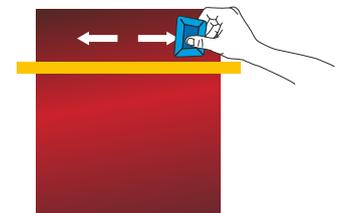

Figure04
- › Start applying the film with a squeegee (previously covered with felt), by forming a 45° angle with the substrate, and by working from the centre towards the edges. (FIG. 04)